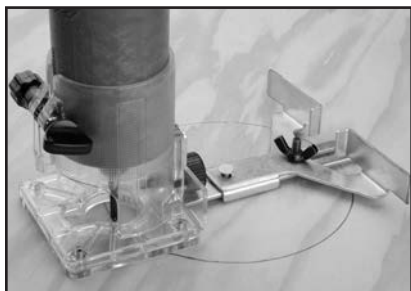

Figure 10. Guide setup for cutting circles.
1. Set up the straight guide as shown in **Figure 10** with the guide plate facing up.